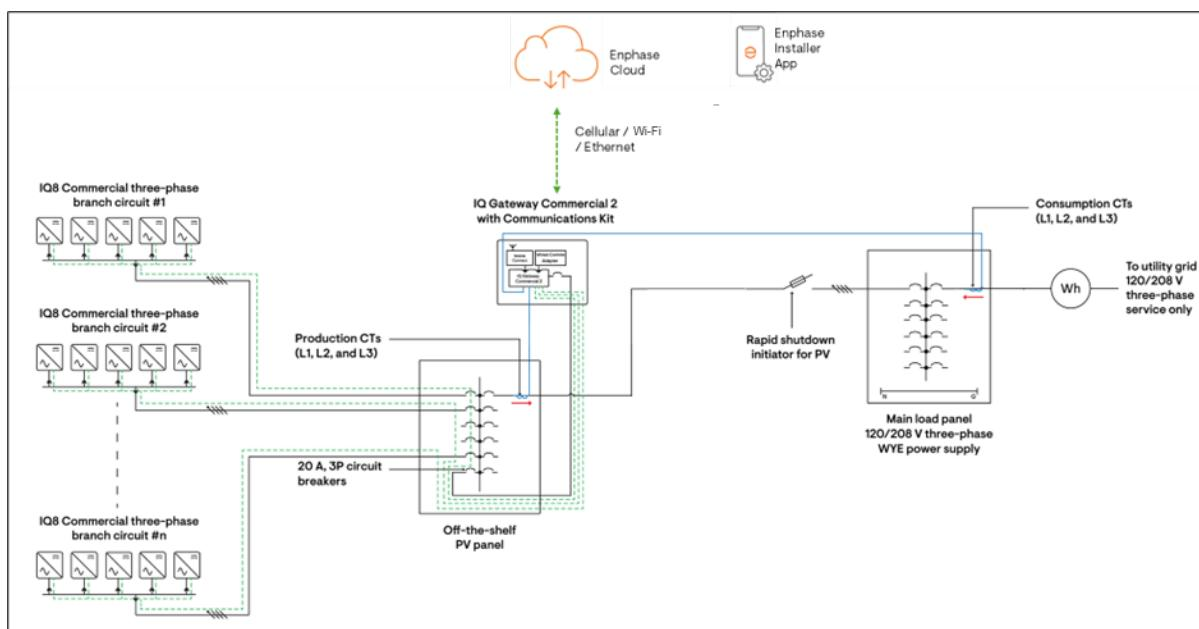

Figure 1: IQ8 Commercial grid-tied PV system
This technical brief provides guidelines for design considerations, installation, and configuration of IQ8 Commercial Microinverter systems (refer to figure 1) for power export limitations. Refer to IQ8 Commercial Microinverter grid-tied PV system design guide for commercial system design guidelines.
- Consumption CT must be installed between the utility and main panel. Refer to figure 1.